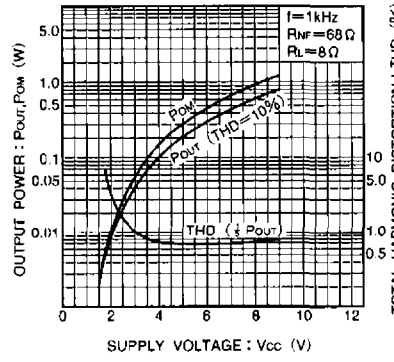

Fig. 2 Rated and max. output power and total harmonic distortion vs. supply voltage
- 1) High output. $POUT = 330mW$ ($V_{CC} = 6V$ and an 8 Ω load (THD = 10%). See Fig. 2).